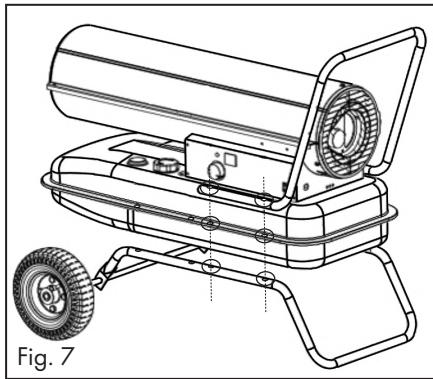

Fig. 7
- Place the upper tube frame (3) on the tank, see Fig. 7
- Make sure that two holes of the upper tube frame (3) are in line with the holes on the side of the tank and the holes of the lower tube frame (1).
- From the top left and right, insert four large round-head screws (A) through each of the handguard frame, the holes on the side of the tank and the holes in the lower tube frame(1).
- Fix the screws with washers, lock washers and nuts (A).